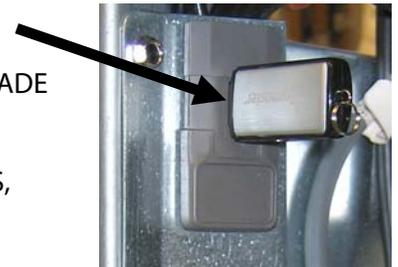

Figure 32
11. Insert the USB flash drive (see Figure 32).